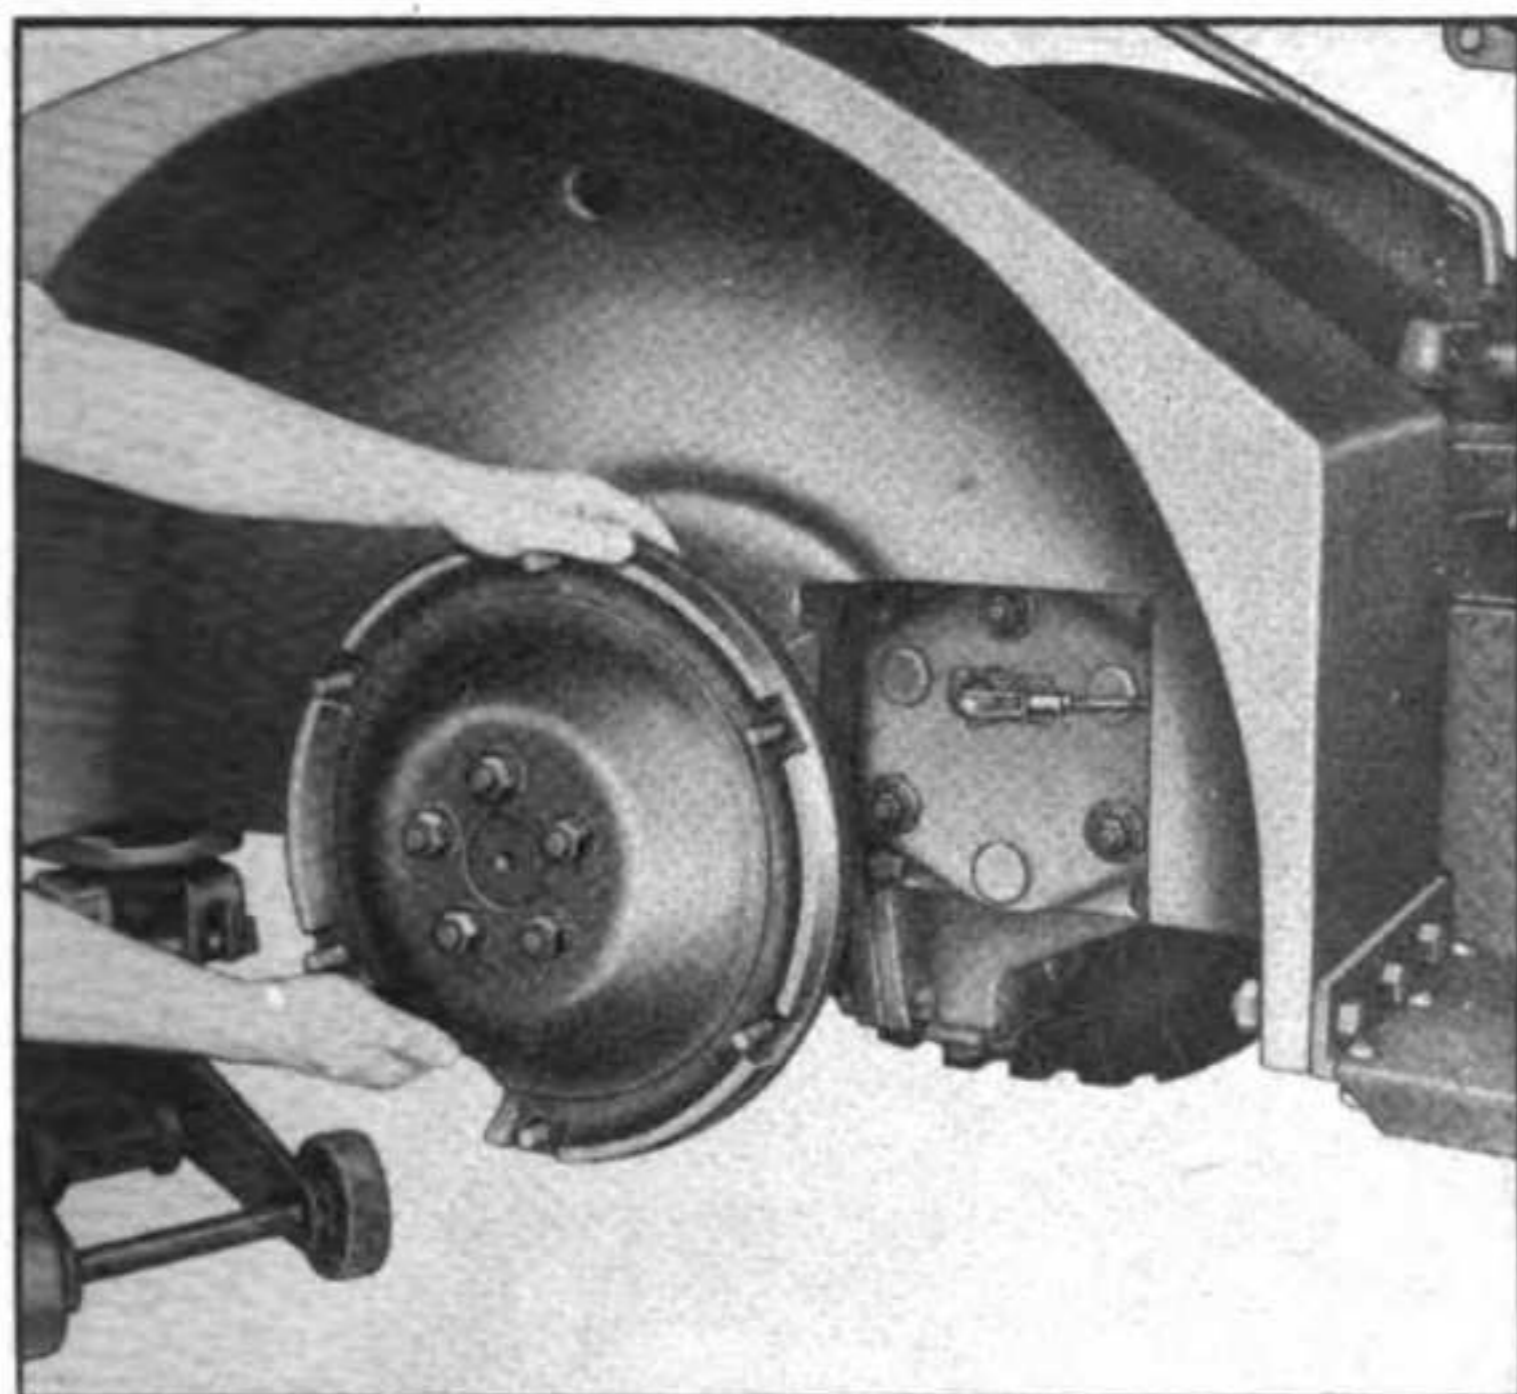

Figure 57 — Inspecting Wheel Drag During Brake Adjustment
- b. Turn the three adjusting screws in a clockwise direction until a noticeable drag is present when wheel is rotated (Figure 57). This forces the primary disk and pressure plate inward and decreases the clearance at the brake lining.